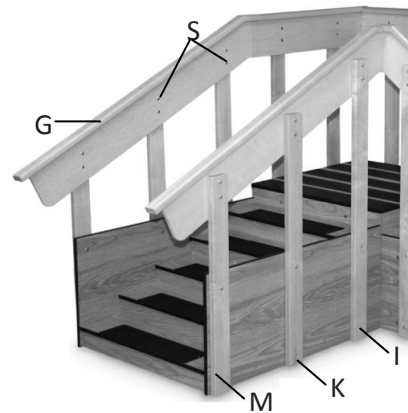

Figure 10: Long Handrail 'G'
13. Attach the Long Handrails 'G' on the inside part of the 'I', 'K' & 'M' uprights so that Barrel bolts 'S' on the handrails should be facing inwards using Pan Head/Philips screw 'R' with Flat washer 'U' as shown in Figures 10.